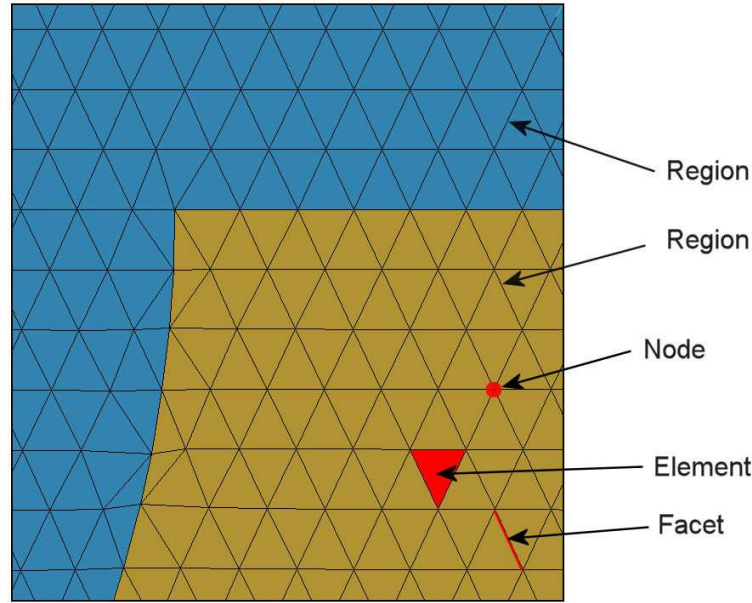

Figure 2: Conformal triangular mesh – definition of terms.
The basis of the finite-element approach is to divide the full solution volume into a number of small volumes, or *elements*. Here, the term *small* indicates that element dimensions are much less than the scale length for variations of field quantities. The division of the volume is called the *computational mesh*. Figure 2 shows the type of mesh used for the two dimensional solutions of **Pulse**. The figure defines three terms that will be used throughout this manual:
The elements in Fig. 2 have triangular cross-sections. In a planar solution, the cross-section lies in the x - y plane and the elements extend an infinite distance in the z direction. In a cylindrical solution, an element is a figure of revolution about the axis with a triangular cross-section in the z - r plane.
The mesh in Fig. 2 has the important property of *conformality*. The term means that the triangles have been specially shaped to conform to the boundaries between materials (*regions*). As a result, each element has an unambiguous material identity. The finite-element method is
2. **Mesh** analyzes the boundary specifications and automatically generates a set of conformal triangles such as those of Fig. 2. The program creates an output file that lists the locations of nodes and the identities of elements.